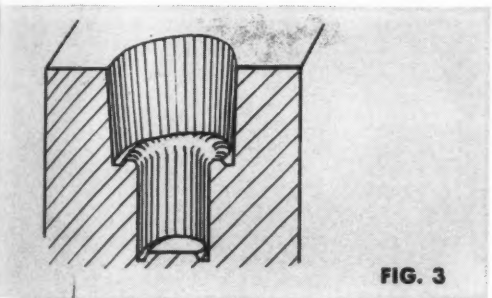

FIG. 3
4. Pins, wedges and threaded plugs which must be removed from the mold during the molding cycle are likely to become nicked and rounded over. If possible, provide fillets and grooves in the molded part to allow ends of pins and wedges to become rounded over, or to allow shoulders on the tools to absorb abuse. (Fig. 3)